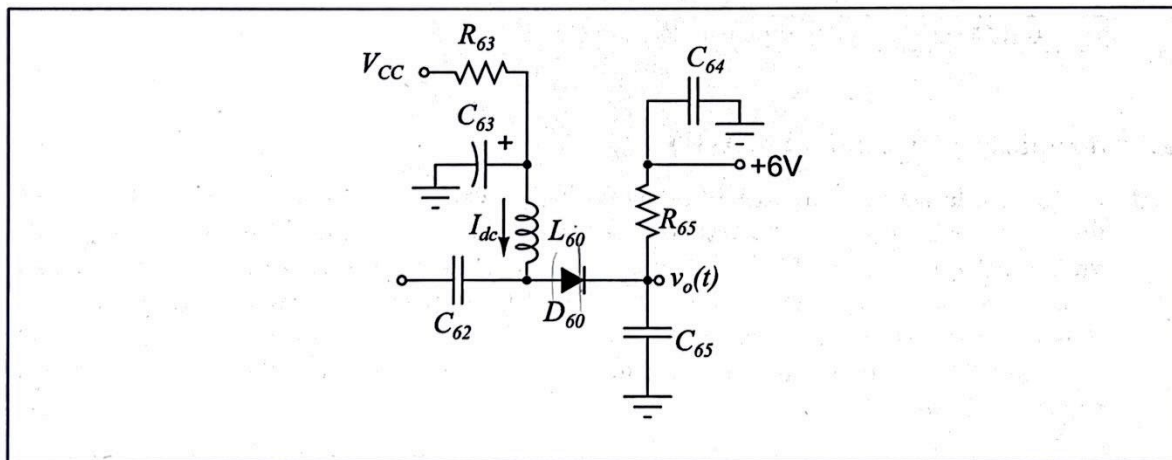

Figure 1: TRC-11 envelope detector circuit.
1. The envelope detector circuit of TRC-11 is given in Fig. 1. It serves to recover the AM modulation signal present on the RF signal. It does so by rectifying the positive side of the AM modulated signal. A low-pass circuit composed of C65 and R65 gets rid of the RF signal frequency.
- A PIN diode acts like an RF resistance whose value is determined by the DC current flowing through it. It is inserted between the first and second IF amplifiers when the jumper JP70 is shorted. If the DC current through it increases, its resistance reduces and hence attenuates the signal going to the second IF amplifier as shown in Fig. 1. Refer to the datasheet of the PIN diode on page 399. Find the reverse breakdown voltage, V_R , and the series RF resistance, R_S , and the forward voltage, V_F of the PIN diode when 1 mA DC flows through it.